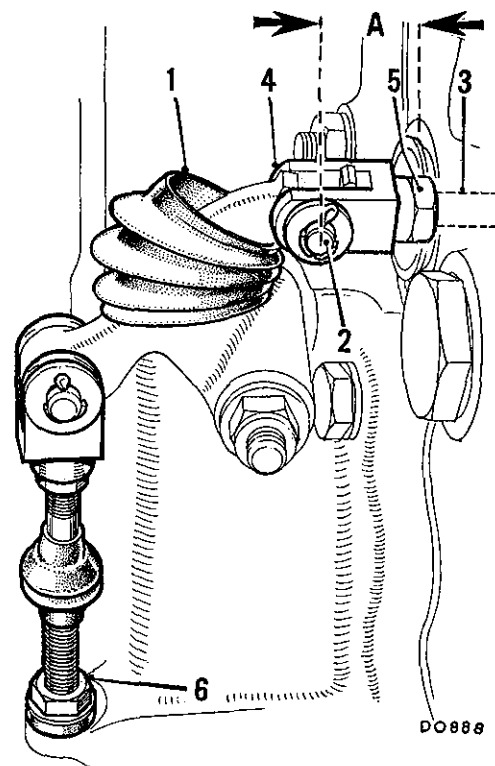

Fig. Fa.2
It is most important to carry out the adjustment procedure detailed below and refer to Fig. Fa.2.
- (8) Refit the clevis pin (2) into the selector rod yoke (4) and check the measurement given in Fig. Fa.2; adjust if necessary.
- (9) Slacken the locknut (5) behind the selector rod yoke and turn the yoke (4) until the correct measurement of $\frac{31}{32}$ in. (20 mm.) is effected (see Fig. Fa.2). Tighten the locknut (5), ensuring that the yoke is set squarely to the bell-crank lever arm.
- (10) Select 'N' in the transmission unit by pulling the selector rod fully out and then pushing it back in one detent.
The measurement 'A' in Fig. Fa.2 should now be 1.45 in. (37 mm.).
- (11) Select 'N' on the quadrant with the gear lever, and adjust the outer cable using the adjusting nuts (6) (see inset to Fig. Fa.2). The adjustment is correct when the clevis pin (2) can be easily refitted.